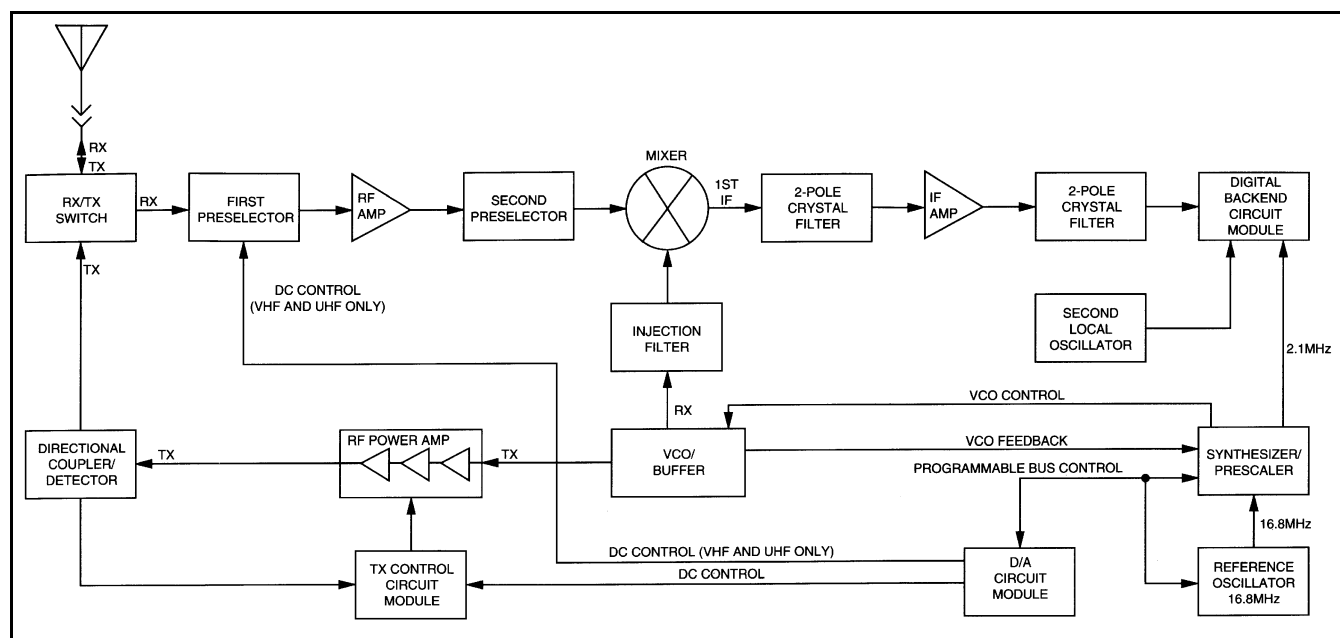

Figure 5-1 RF Board Block Diagram
The receiver front end consists of a preselector, an RF amplifier, a second preselector, and a mixer (see Figure 5-1). Both preselectors on the VHF and UHF boards are varactor-tuned, two-pole filters controlled by the control logic. The 800 MHz board uses stripline technology for the preselector. The RF amplifier is a dual-gate, gallium-arsenide based IC. The mixer is a double-balanced, active mixer coupled by transformers. Injection is provided by the VCO through an injection filter. Refer to Table 5-1 for local oscillator (LO) and first IF information.